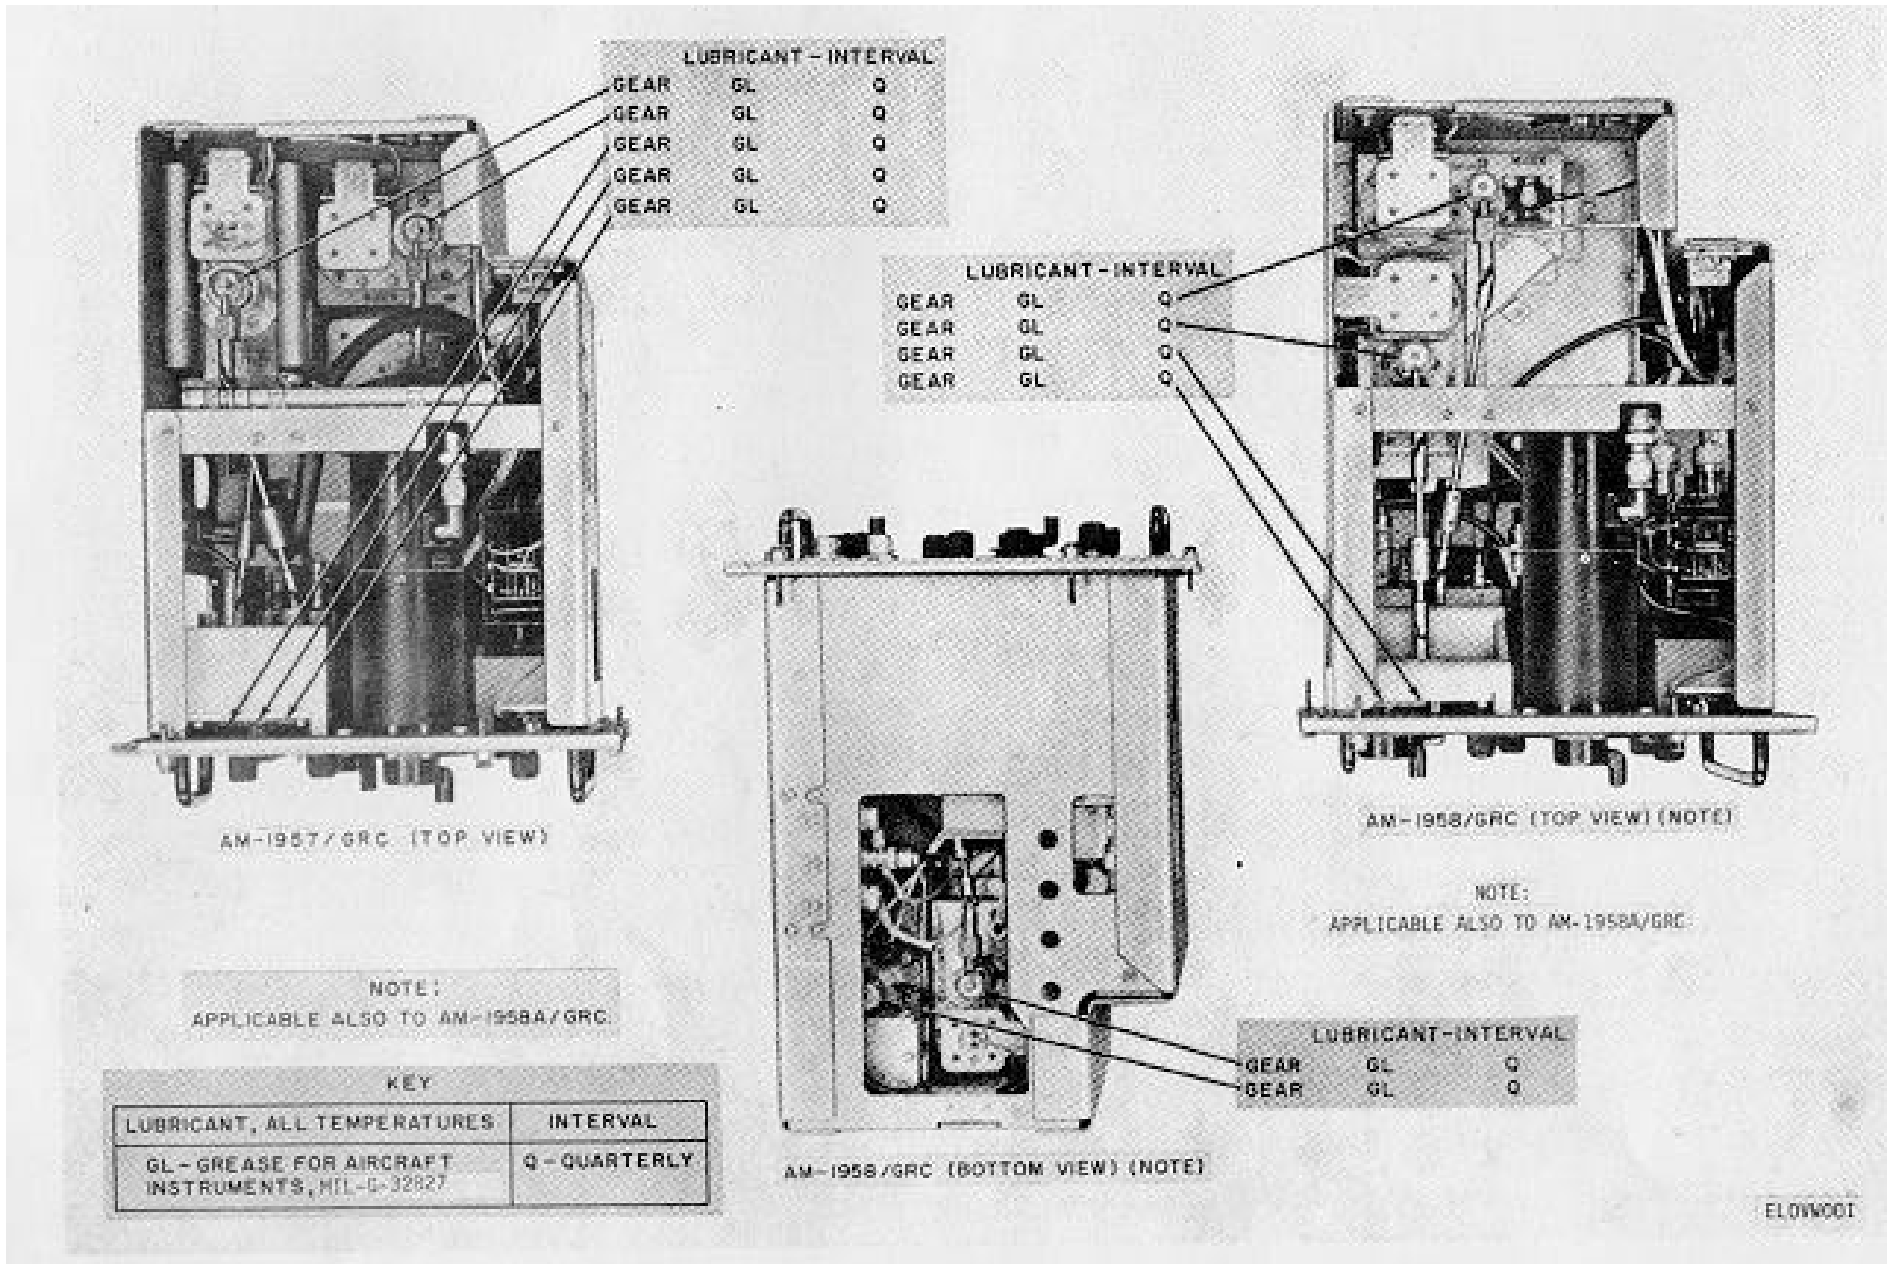

Figure 5-1. Amplifier-Oscillators AM-1957/GRC and AM-1958(*)/GRC, lubrication points.
a. Amplifier-Oscillator AM-1957/GRC and AM-1958(*)/GRC. Loosen the front panel mounting screws on the AM-19571GRC or the AM-1958(*)1GRC and remove it from the T -8 93(P)/GRC. Locate all the points to be lubricated (fig. 5-1) and clean them with a brush dipped in cleaning compound. Use a clean brush to apply a light film of grease ((GL) to the points indicated. Replace the components and tighten the mounting screws.